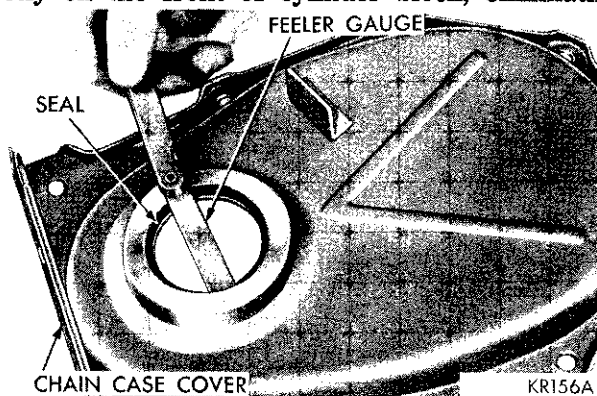

Fig. 27—Inspecting Seal for Proper Seating
(9) The seal is properly installed when the neoprene is tight against face of cover. Try to insert a .0015 inch feeler gauge between the neoprene and the cover (Fig. 27). If the seal is installed properly, feeler gauge cannot be inserted. **Do not over compress neoprene.**